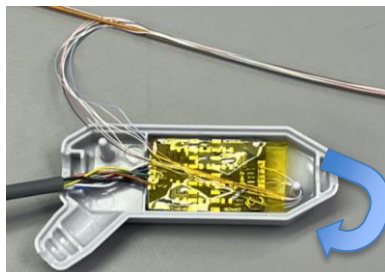

Figure 10: Micro-Coax loop around Bridgeboard housing pins
- 7.7.5 Keeping all components exiting proximal from the outer lumen in place, carefully advance the sleeve over applied adhesive until the end of the sleeve overlaps the distal tip for approximately 1mm. Ensure there are no air bubbles in the indicated section in Figure 10. Wipe excess adhesive with lint-free wipe as necessary. **Note:** As necessary, adjust length of individual micro-coax cables to be equal length with one another on the distal end to reduce risk of kinking or folding distal micro-coax cables as the outer lumen is advanced..
7.10.3 Loop the micro-coaxial cables attached to the distal end of the bridgeboard circuit around the distal bridgeboard housing pin (Figure 10). Apply tape over the cables and bridgeboard to hold the cables in place.